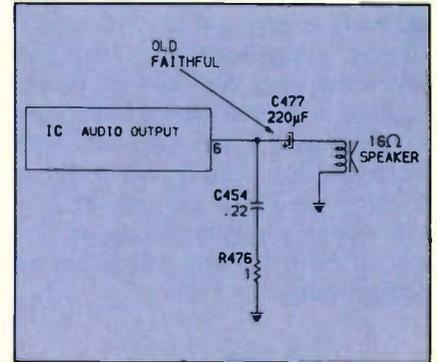

Figure 10. Use of an external speaker in series with a 50µF capacitor clipped across the speaker leads may reveal a defective coupling capacitor.
The audio signal may be traced with the external audio amp or speaker. Another permanent-magnet (PM) speaker with a 50µF capacitor soldered to it may be used as the sound indicator. Any type of PM speaker may be used here as the impedance and size is not important for the purpose of this test. Clip one speaker lead to chassis ground and touch the other end of the capacitor to the IC audio output pin (Figure 10).